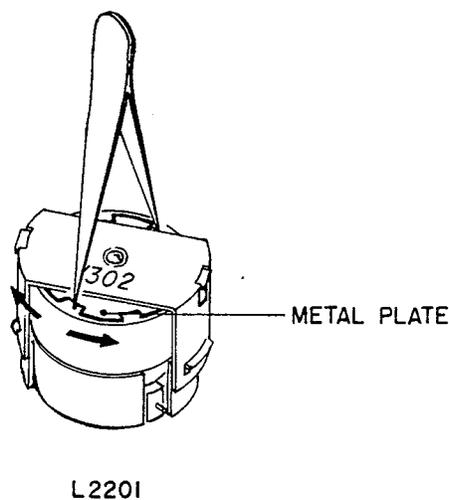

Fig. 9
- (a) Vertical Size is adjusted with VR-2, and Horizontal Size is adjusted by rotating the round metal plate at the upper part of L-2201 (See Fig. 9).